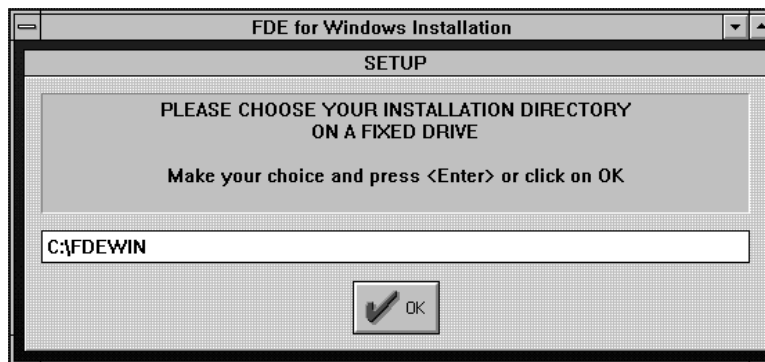

Figure 3-3 The FDE for Windows Installation Screen
6. When "C:\FDEWIN" appears, press ENTER to install FDE for Windows on the displayed drive and directory. See Figure 3-3.